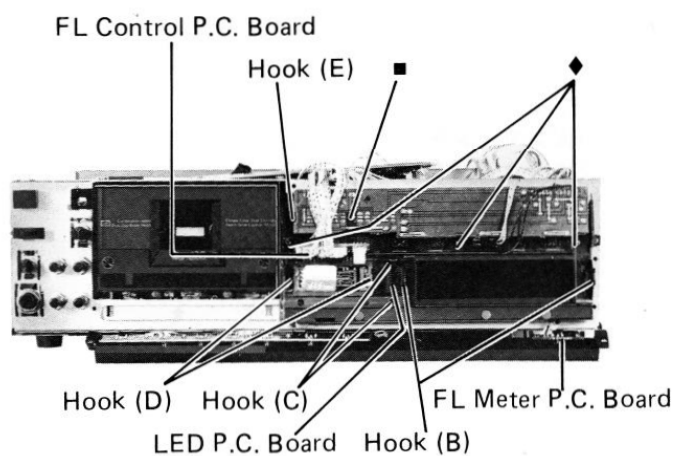

Figure 13
- (1) After removal of front chassis, unfasten two hooks (B) as shown in Figure 13.
- (2) Disconnect all connectors from the P.C. Board.
- (1) After removal of front chassis, unfasten two hooks (C) as shown in Figure 13.
- (2) Disconnect the connector from the P.C. Board.
- (1) After removal of front chassis, unfasten two hooks (D) as shown in Figure 13. Pull out the FL Counter P.C. Board upward.
- (2) Disconnect all connectors from the P.C. Board. Do not snap pins of FL counter when disconnecting all connectors.
- (1) After removal of FL Counter P.C. Board, remove three screws marked "◆" as shown in Figure 13, then remove the frame knob with the P.C. Board.
- (3) Remove five screws marked "■" and unfasten hook (E) as shown in Figures 13 and 14.
- (4) Disconnect all connectors from the P.C. Board.